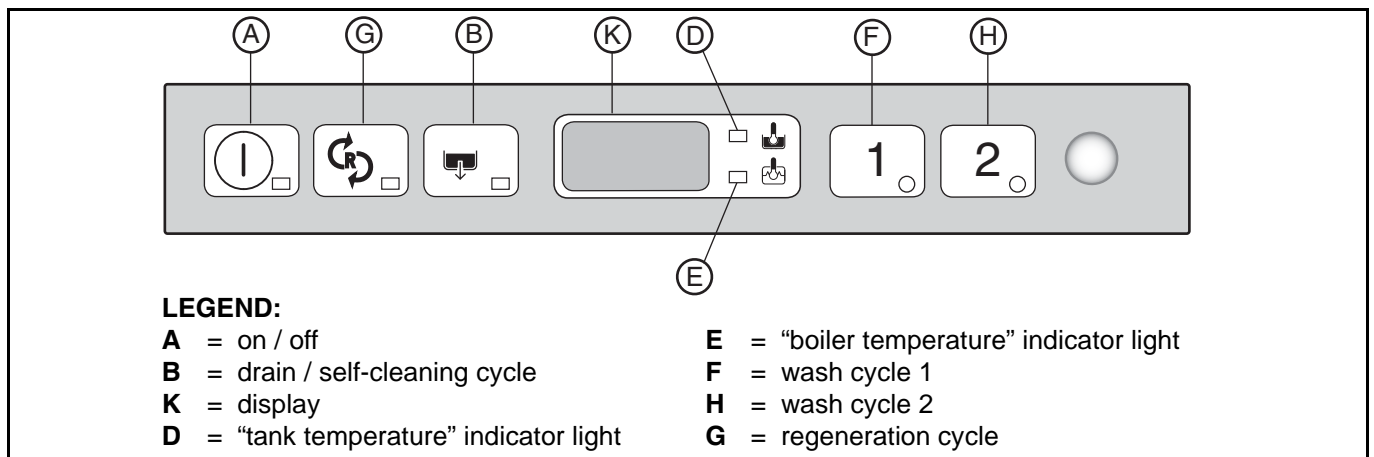

Figure 15
The indicator light of button "A" (Figure 15) comes on, indicating that the dishwasher is powered and that water is being introduced and heated. The word "FILL" is shown on the display during the entire filling and heating stage:
To display the boiler temperature during heating of the tank, open the door and press the button "F" (Figure 15).
For lightly soiled dishes or glasses: press button "F" (Figure 15), (see table of times).
For very dirty dishes: press button "H" (Figure 15), (see table of times).
- Select the drain cycle by pressing button "B" (Figure 15).
- Switch off the dishwasher by pressing button "A" (Figure 15).